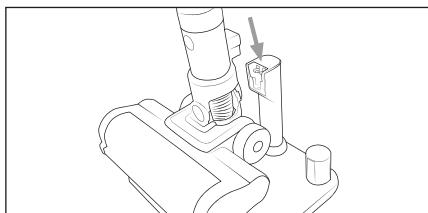

Fig. 6
- ▶ The appliance is equipped with a temperature monitor to protect the battery ①. At high ambient temperatures, the charging process may be interrupted or the appliance may switch off automatically in rare cases:
- The battery indicator ⑳ flashes at one second intervals during charging. Charging is interrupted and automatically resumed as soon as the temperature of the appliance has dropped.
- The battery indicator ⑳ flashes at half second intervals during operation. The appliance switches off automatically. Allow the appliance to cool down for about 20–30 minutes before switching it on again.
- ◆ Place the appliance on the appliance cradle ⑪ of the charging station ⑮. Make sure that the charging contacts ⑫ of the appliance and the charging station ⑮ are in full contact. The battery indicator ⑳ starts flashing and the charging process starts (see Fig. 6 and 7).